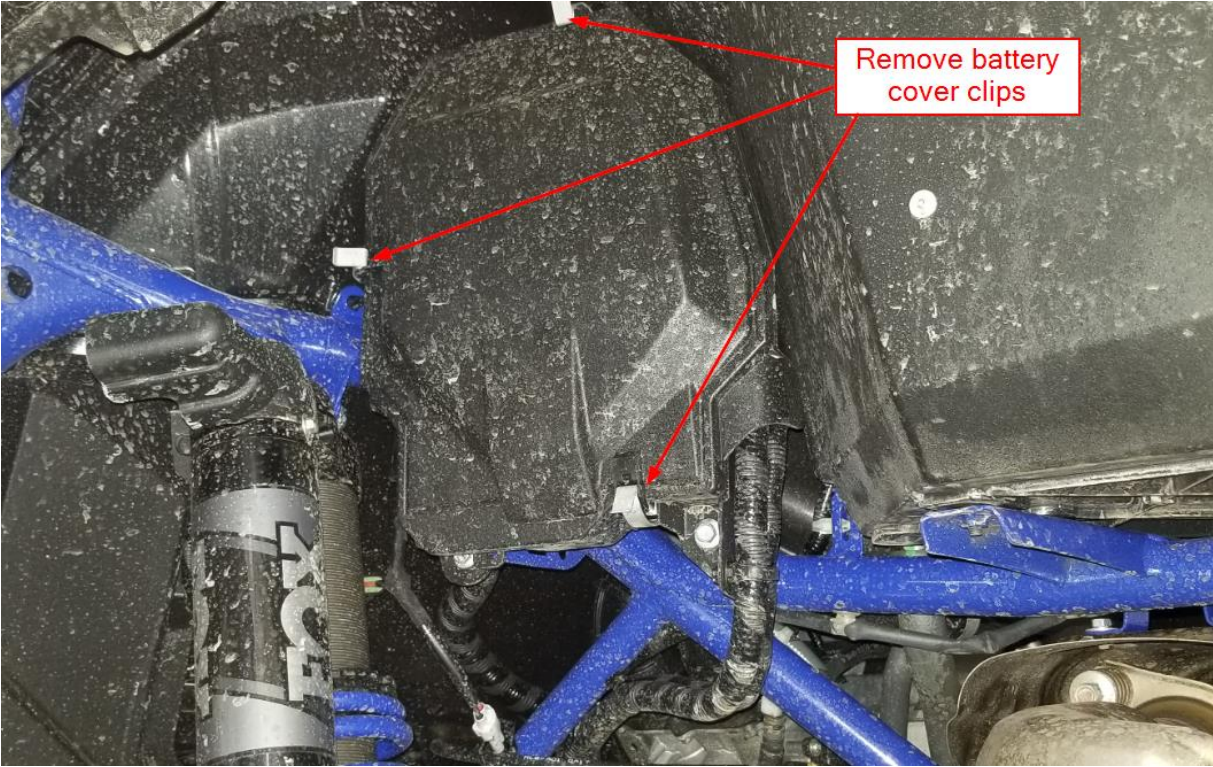

Figure 28
- a. Remove the battery cover clips to expose the battery as shown in Figure 28.